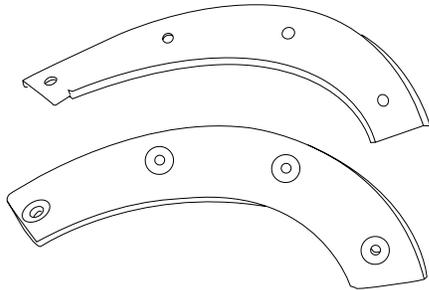

Figure 23
- Loosen the middle 2 sets of nuts and bolts to change the worn rubber plate, assemble and tighten it on reverse step (Fig. 23).